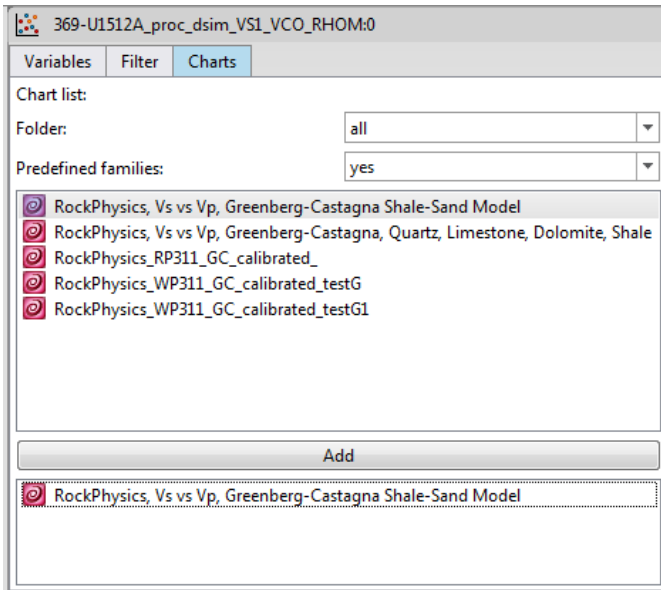

Fig. 21: Cross-plot tab for Charts
5. To add a pre-loaded chart, click on the Charts tab left of the cross-plot. A short list of available charts are shown based on the displayed variables. Select one and click the Add button midway down. The selected chart name will be displayed below, and in the actual cross-plot (Fig. 21). In case the chart does not appear, it may be that the dataset is beyond the limits of the chart. Consider adjusting in the Properties panel the limits of the X and Y axis